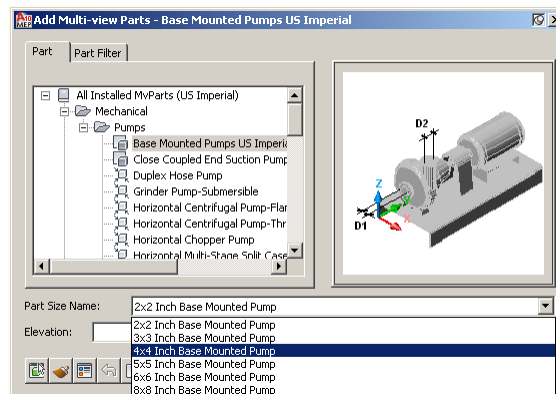

Figure 6.34
3. From the “Part Size Name” list, choose **4x4 Inch Base Mounted Pump** (see Figure 6.34).